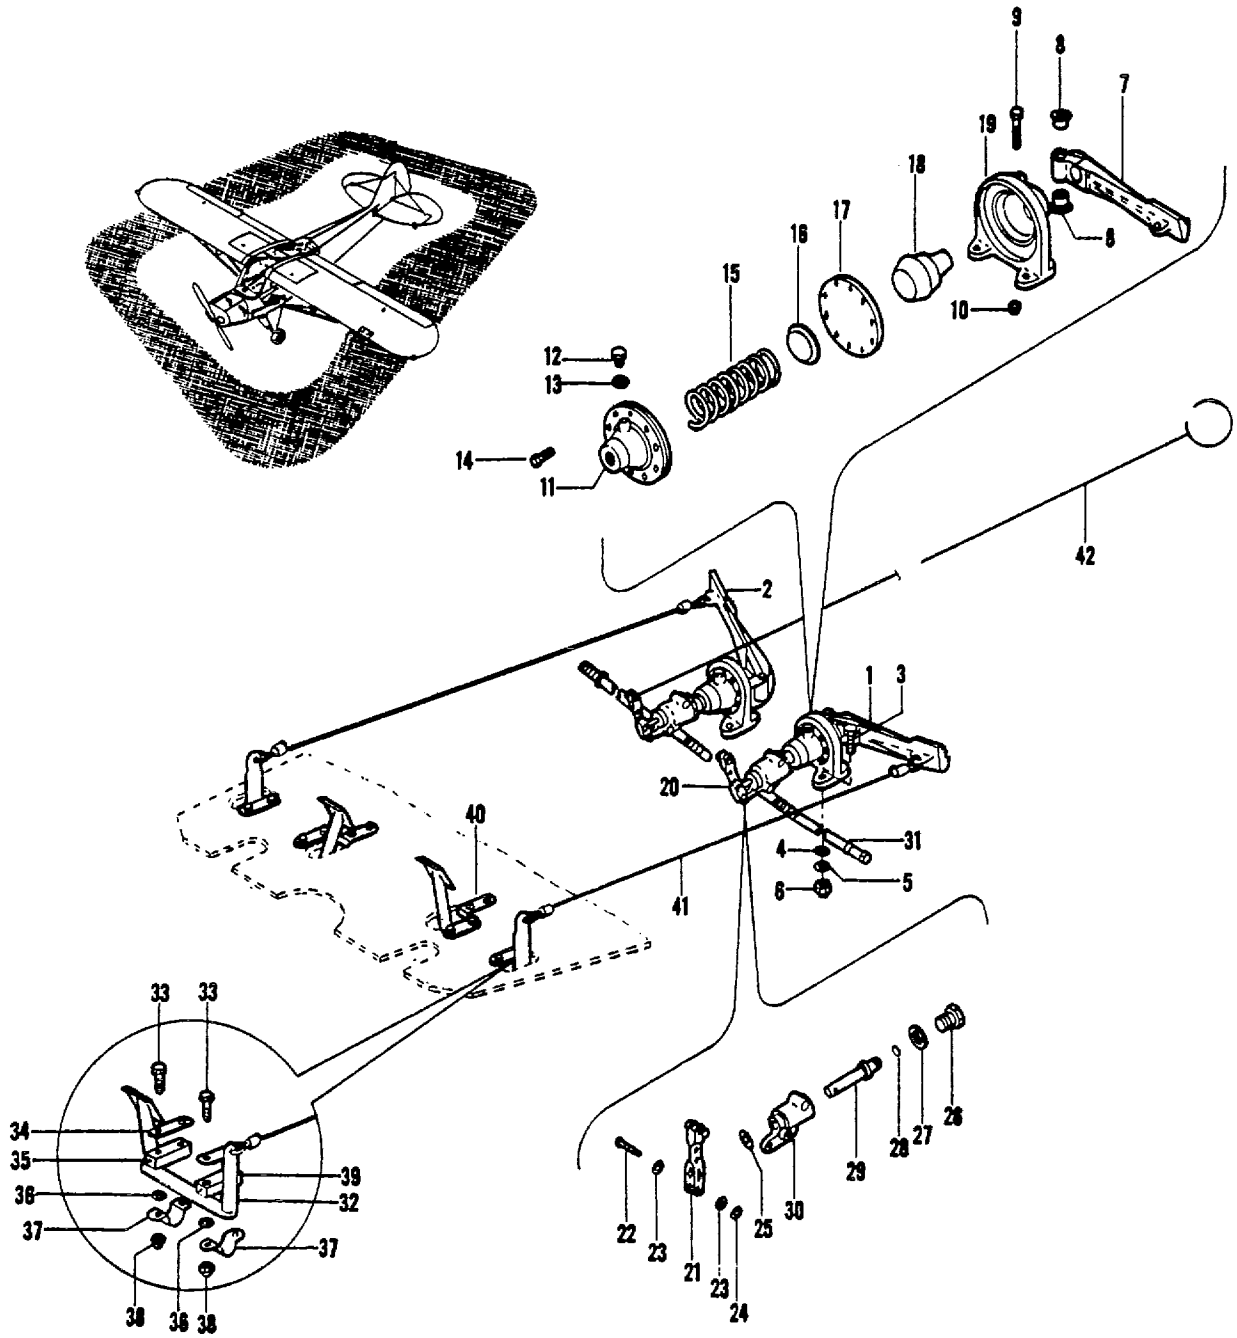

Figure 2-23. Brake Installation
Flexible hose old, deteriorated and expanded.	Install new hose (21, figure 2-23) and check system for leaks.
c. **Brakes Drag:** Common causes are: brake shoes fail to release; too much fluid pressure "locked in"; or parking brake mechanism does not release properly. If brakes continue to drag after checking the parking mechanism (figure 2-23), remove the wheels and sand down any high spots on the brake drum. Remove brake shoes and sand down any high spots on the brake drum. Remove brake shoes and sand down burrs on edges of retaining plates. If brake shoes fit tightly or are rough on the sides, sand them down. Make certain the spring return clips are in good condition and that the shoes are not broken at the spring slots.
f. **Parking Brakes Do Not Hold:** Examine parking lever mechanism. Check parking brake valve lines and fittings. If the valve shows evidence of leakage, disassemble according to figure 2-23, replace O-rings (25 and 28) and reassemble. If brakes still fail to hold and the defects of steps a through d have been eliminated, check for leaks around compression cover (11, figure 2-23). Disassemble the master cylinder according to figure 2-23, replace worn or damaged diaphragm (17) and reassemble.
Legend for Figure 2-23.
a. Remove the vent screw (12, figure 2-23) from the master cylinder and attach a short length of rubber hose to it to direct the fluid into a container.